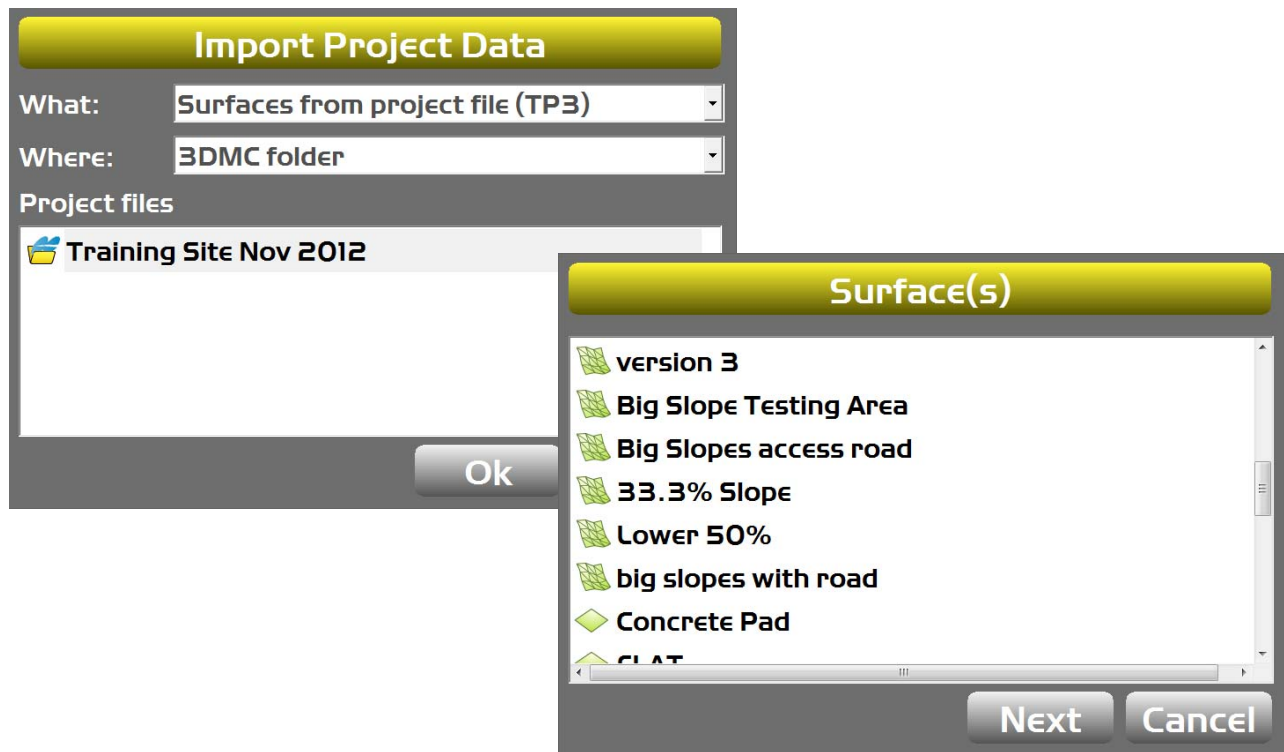

Figure 30: Import Project Data Screen – Surfaces
5. Select either **3DMC folder**, [drive letter]: **(USB Drive)**, or **Sitelink3D inbox** from the **Where** drop-down list (Figure 30).
7. Double-tap on the file in the **Project files** list. The **Surface(s)** screen appears (Figure 30).